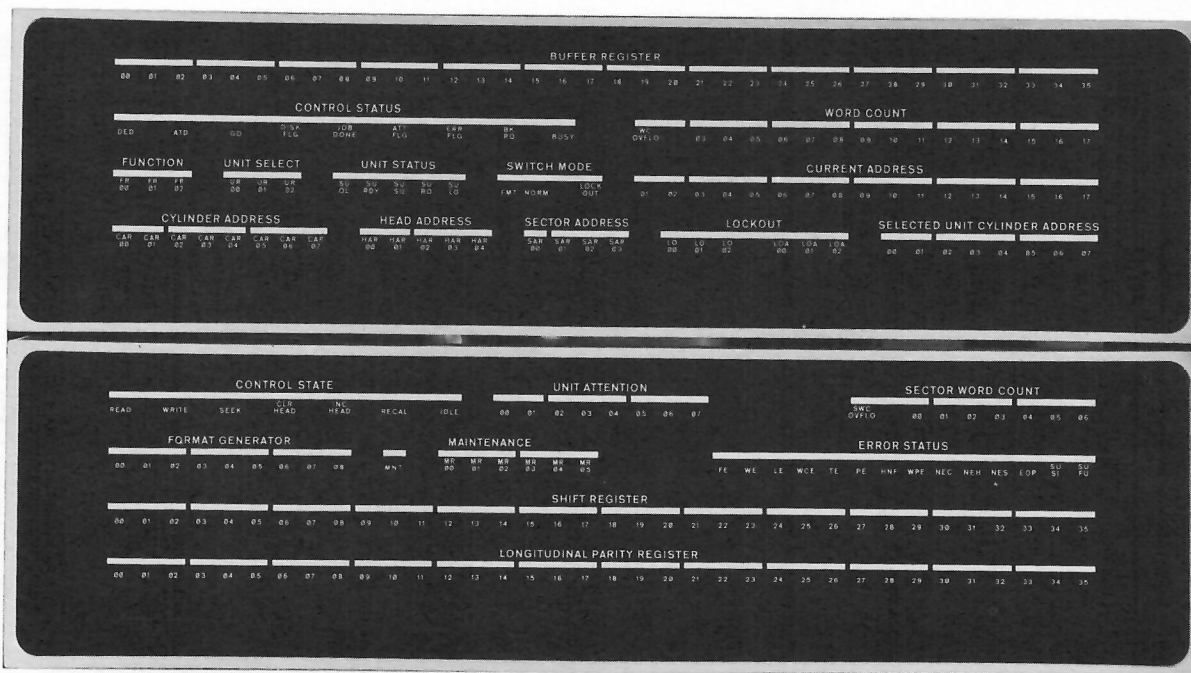

Figure 6-3 RP15 Indicator Panel
6.1.1.2 RP15 Indicator Panel - The Disk Pack Controller RP15 Indicator Panel is illustrated in Figure 6-3 and described in Table 6-2.